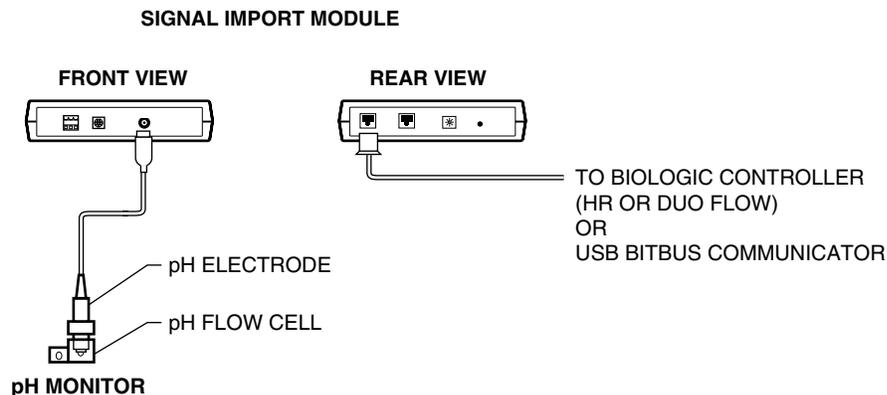

Figure 2. pH Monitor connected via SIM module for BioLogic DuoFlow without a Maximizer system
5. Attach the BNC connector from the pH electrode to the Maximizer or SIM, see figures 2 and 3.